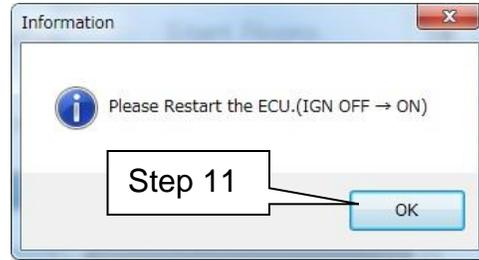

Figure 16
- After selecting OK in Figure 16, the OCS reprogramming will likely complete items 5 through 7 quickly (see "Complete" screen, Figure 18 below).